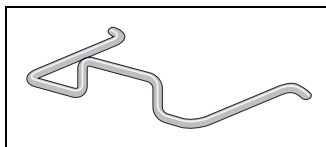

Figure 28. Power Cord Retaining Clip
1. Locate the power cord retaining clip, shown in Figure 28.